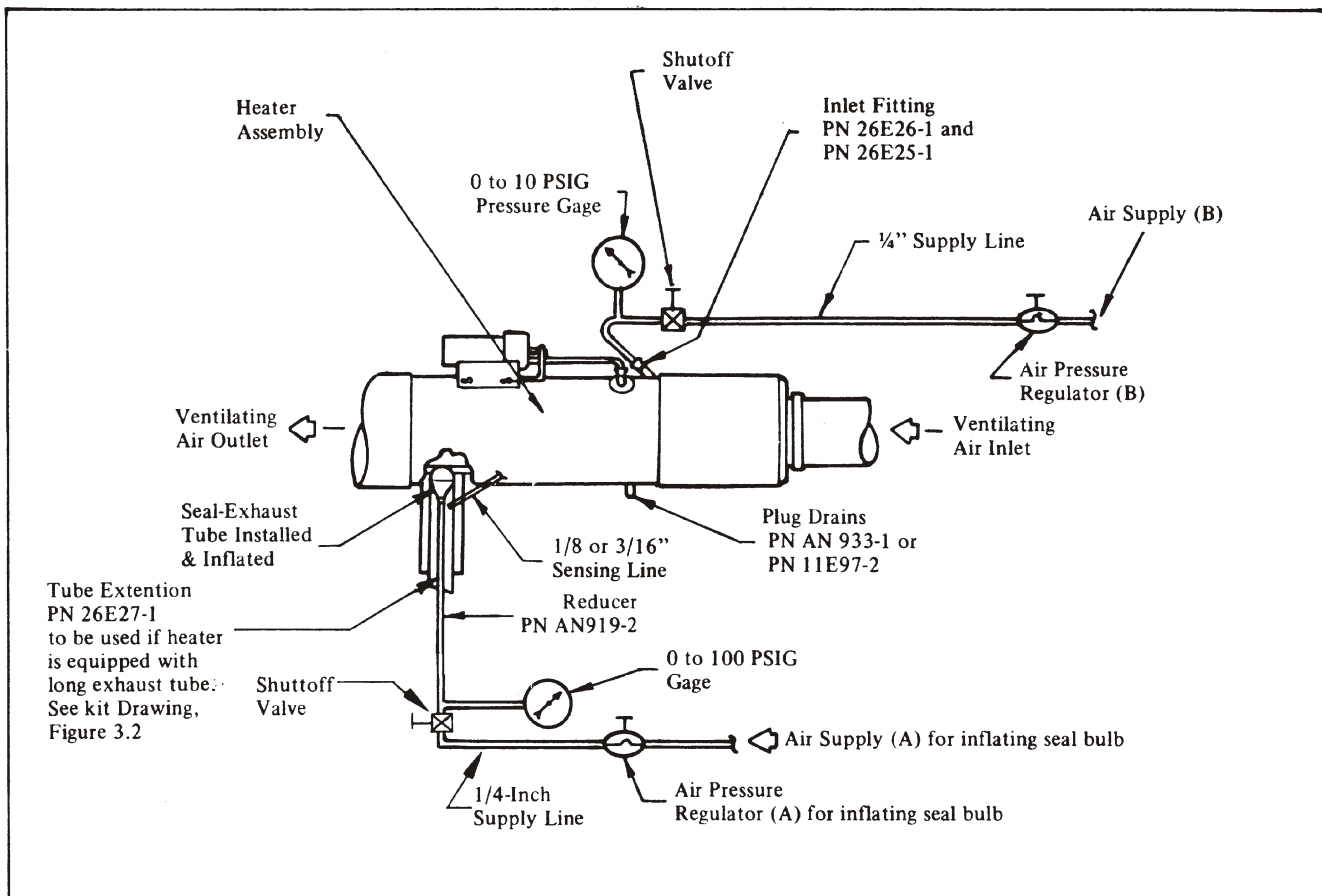
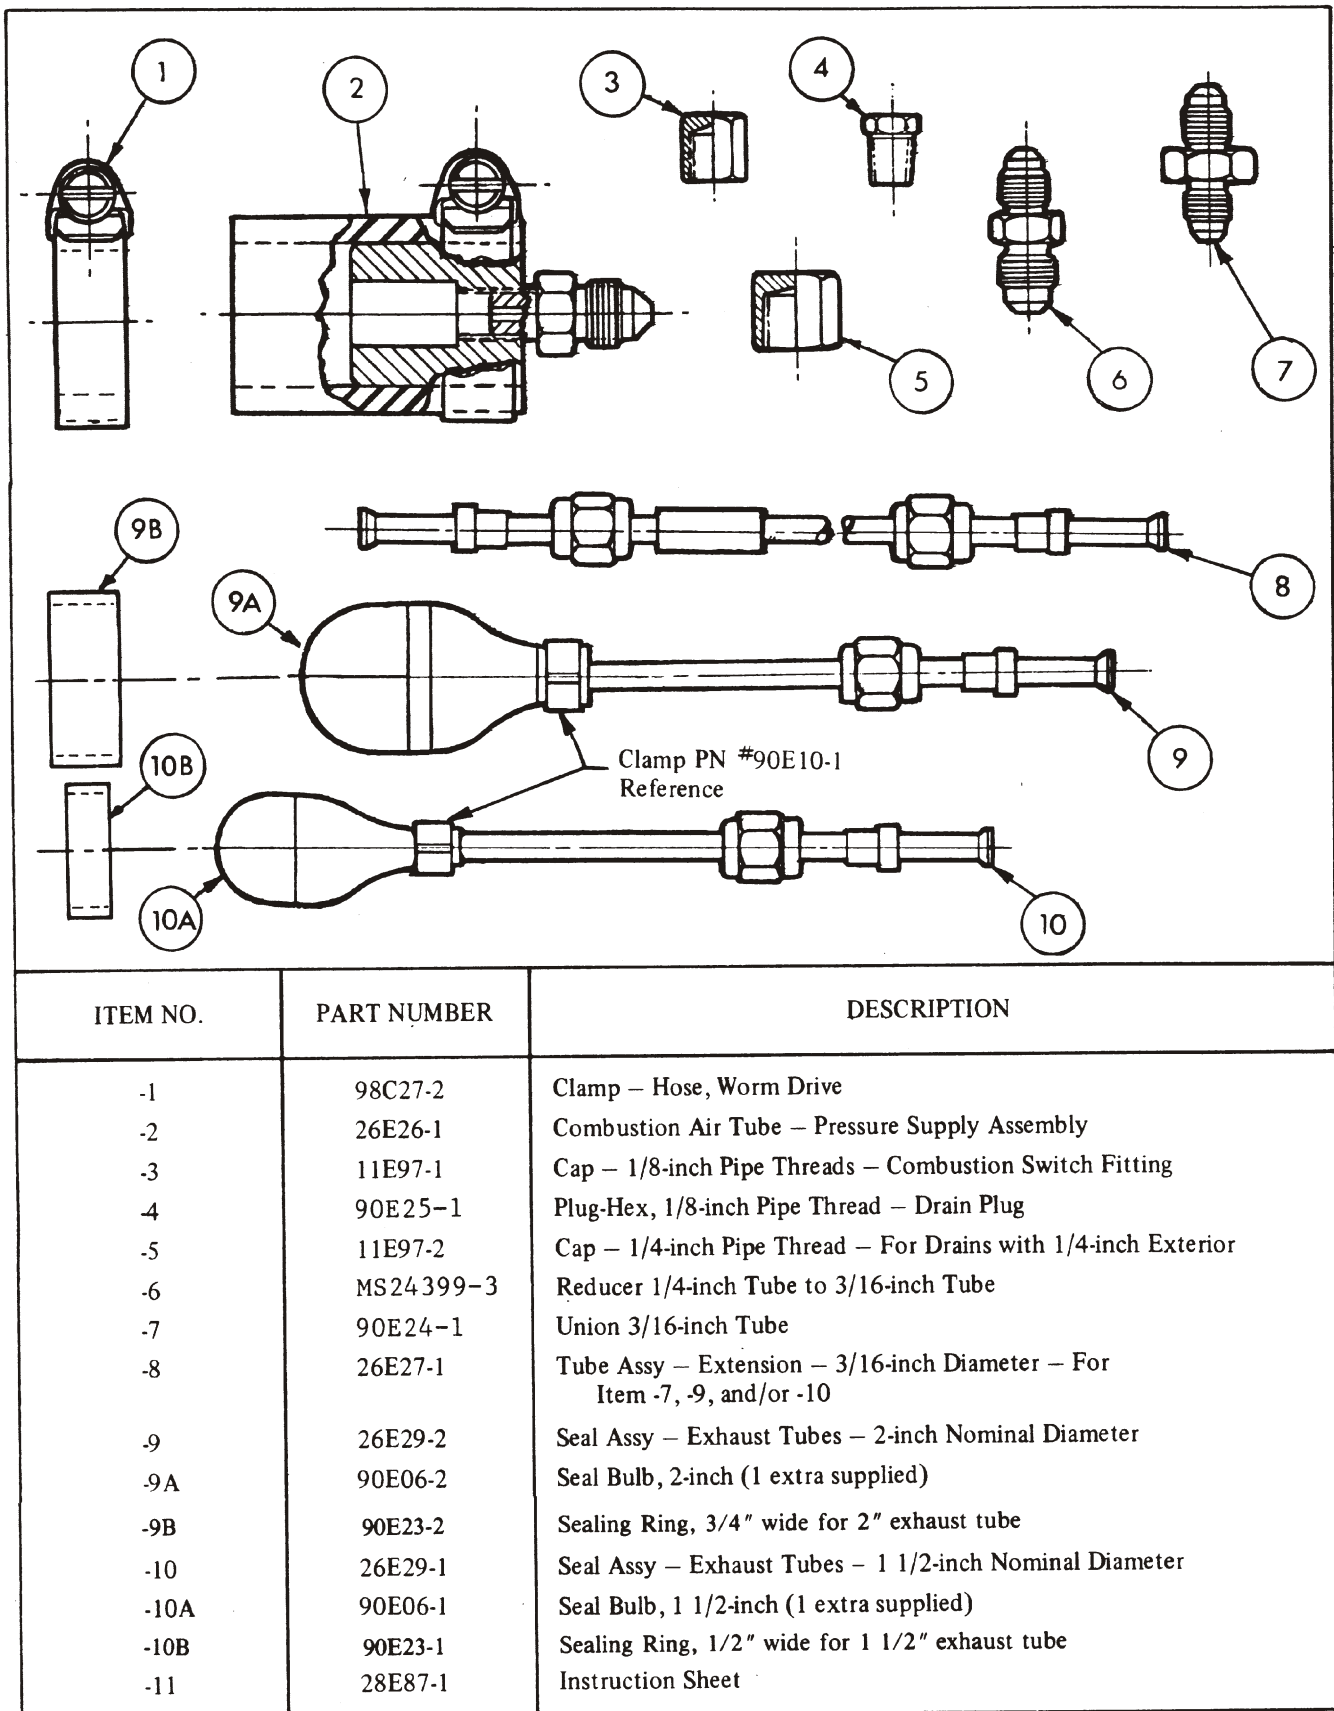
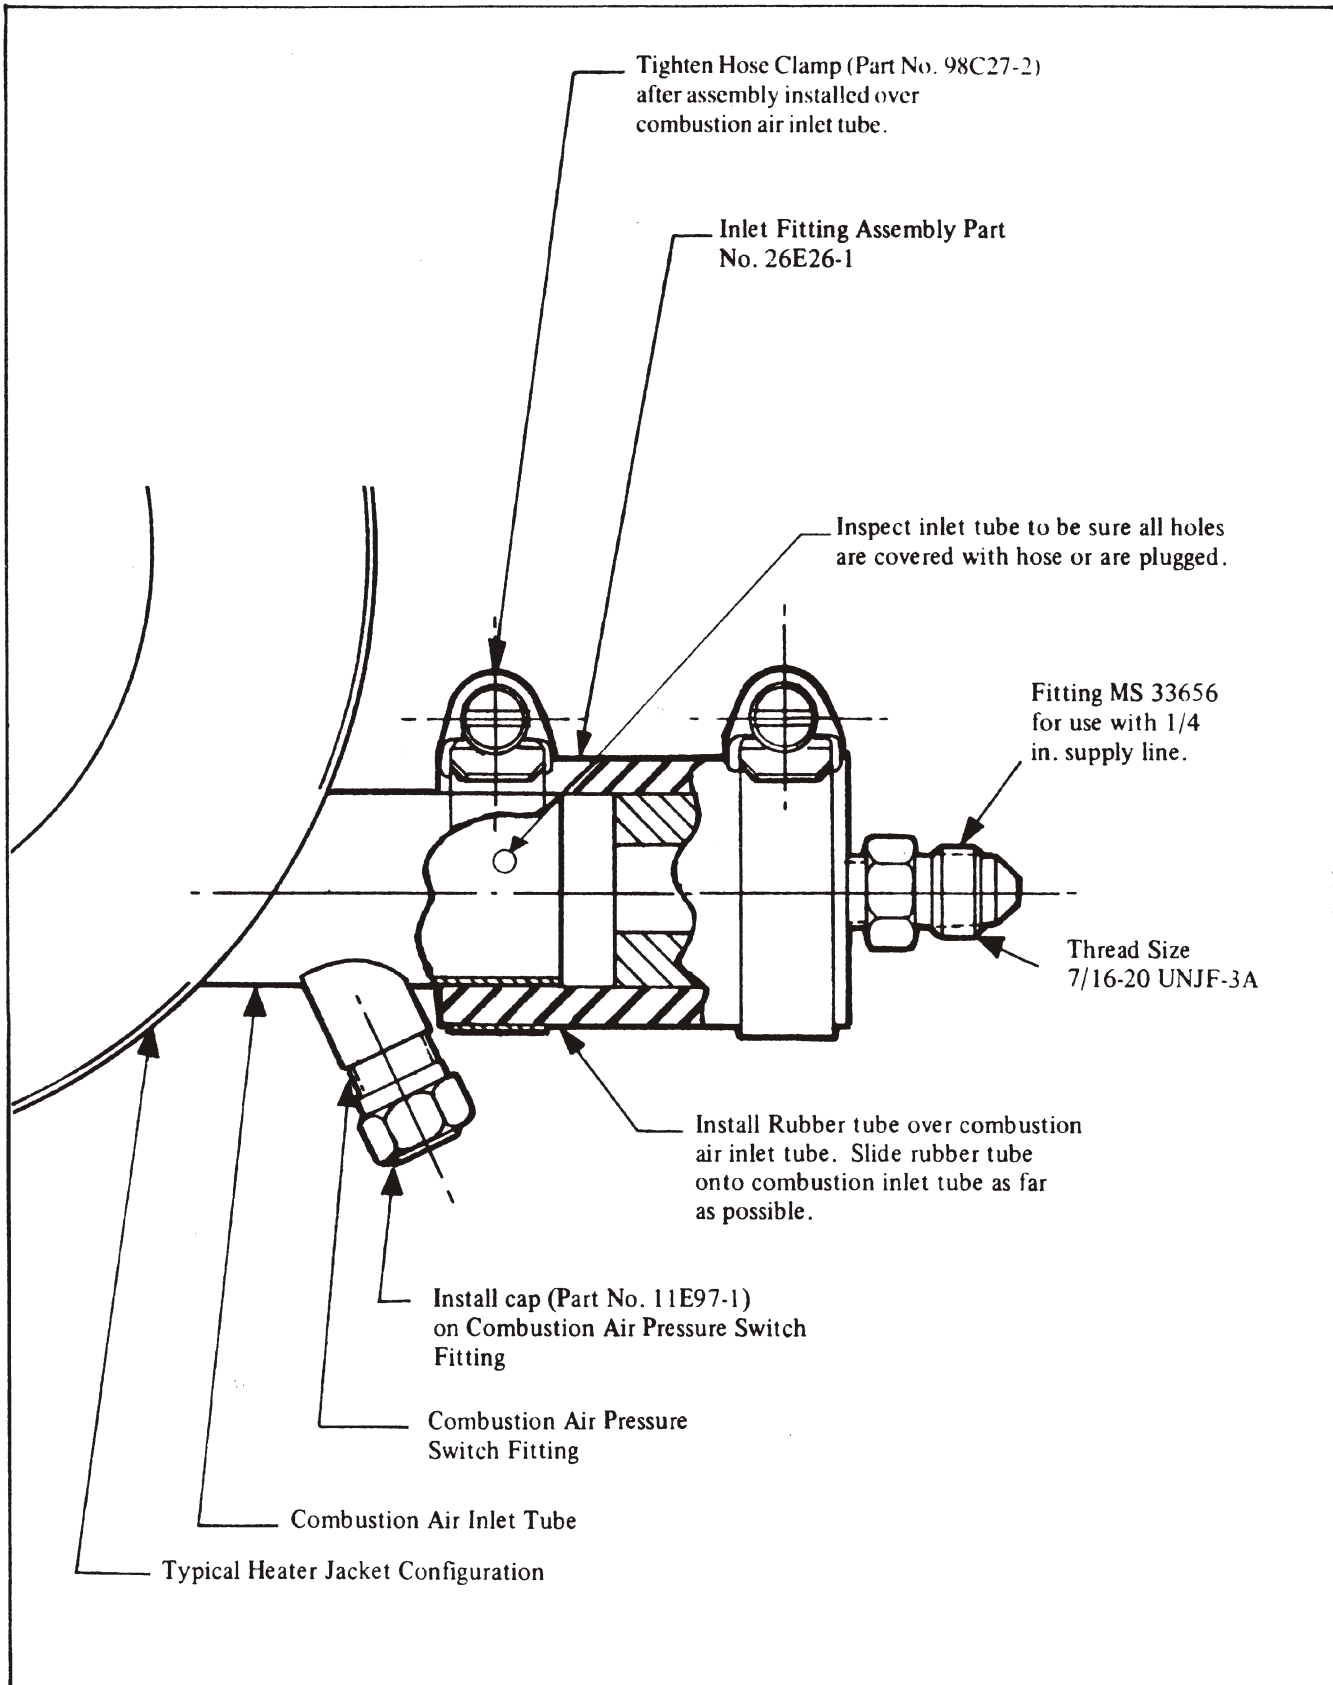
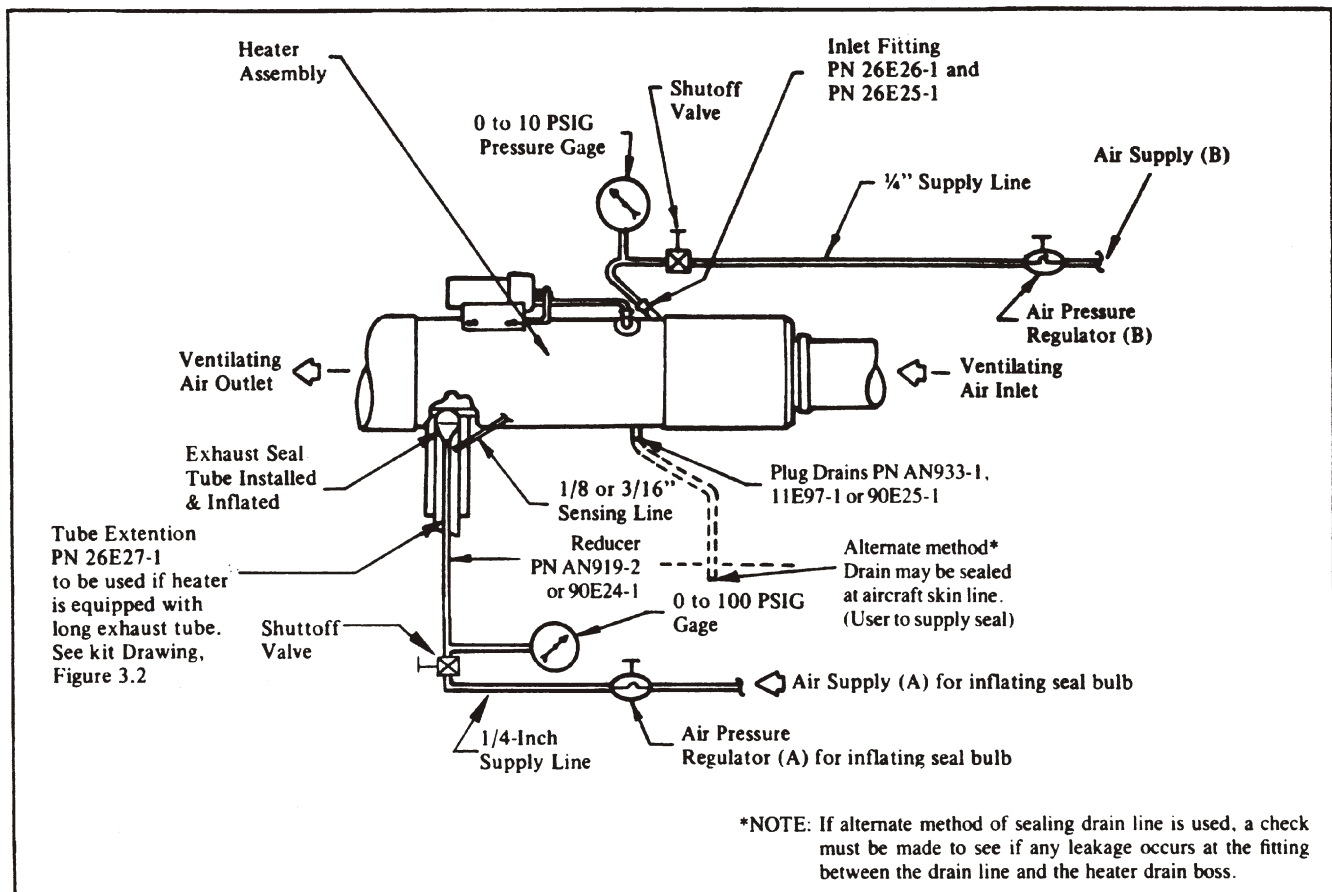

FIGURE 3-1 Test Set-Up Pressure Decay Inspection Test
FIGURE 3-2 Combustion Tube Pressure Decay Test Parts Kit (Part No. 26E24-1)
FIGURE 3-3 Combustion Air Tube – Pressure Supply Assembly Installed
FIGURE 3-5 Test Set-Up Pressure Decay Test
2. 1/4-inch air supply line with 0-10 PSIG pressure gage, shutoff valve and air pressure regulator. (B), See Figure 3-1.
3. 1/4-inch air supply line with 0-100 PSIG pressure gage, shutoff valve and air pressure regulator. (A), See Figure 3-1.
To conduct the pressure decay test, the heater must first be sealed at all openings into the combustion chamber assembly. The openings into the combustion chamber include the combustion air inlet tube, combustion air pressure switch differential sensing lines, fuel drain, and the exhaust tube. (See Figure 3-1) Loosen and remove all flex tubing, elbows and adapter, that may be mounted between the combustion air blower and the heater.
3.3.4 Install pressure seals on Combustion Chamber using the parts supplied in the Combustion Chamber Pressure Decay Test Kit (Part No. 26E24-1) (See Figure 3-2). The following attachments are to be made on the heater.
Install and tighten in place (as shown on Figure 3-3) the Combustion Air Tube Pressure Supply Assembly (Part No. 26E26-1) using the hose clamps (Part No. 26E25-1). Attach 1/4-inch supply line as shown in Figure 3-1 or 3-5. Install and tighten cap (Part No. 11E97-1) on fitting where combustion air pressure switch was mounted. (See Figure 3-2 and 3-3)
3.3.7 Attach the correct size exhaust seal tube to the pressure supply system as shown in Figure 3-5. For longer exhaust tubes, the Tube-Extension Part No. 26E27-1 will be required for the seal to be fully inserted.
After the seal is properly inserted into the exhaust tube, and while holding it in place, slowly inflate the seal to 70±5 psig pressure using the regulated supply air (A) as shown in Figure 3-5. When properly installed and inflated, the seal will hold itself in place. After seal is properly installed and pressurized, close the shutoff valve on the line as shown in Figure 3-5, to check for leakage from the bulb.
3.3.8 Attach a supply line to the fitting on the Combustion Air Inlet Seal Fixture. Slowly apply 2 or 3 psig of air pressure from the regulator (B) as shown in test set-up diagram to check that exhaust seal is leaktight. Pressure in the exhaust seal, air supply (A), may be increased to 95 psi max. if required to achieve leaktight seal.
Apply 6.0±.5 psig to the combustion chamber through the air pressure supply regulator (B) as shown on the test set-up diagram. Figure 3-5.
(Figure 3-5 is identical to Figure 3-1 and is repeated here for convenience to reader)